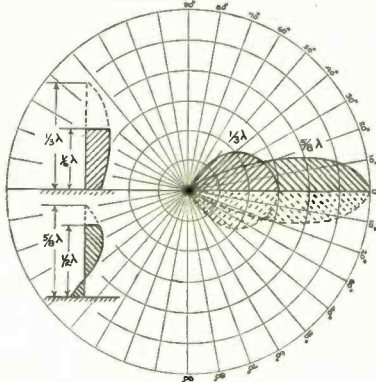

Fig. 2.
P. S. Carter of R. C. A. Communications, Inc., has calculated the power distribution in the vertical plane of a one-third wave, and a five-eighths wave, single wire, T type antenna. The diagrams of Fig. 2 illustrate graphically the results of these calculations. The small diagrams at the left of the figure illustrate the current distributions in the two antennas. The upper T antenna is assumed one-sixth wavelength high, and to have an electrical length of one-third
It will be observed from Fig. 2 that a considerable portion of the energy of the one-third wave antenna is projected at a vertical angle of approximately 35° while the corresponding angle of the five-eighths wave antenna is about 15°. The five-eighths wave antenna radiates twice the power in the horizontal plane that is obtained from the one-third wave antenna.
The graphs of Fig. 2 assume a perfectly conducting ground. The effect of imperfectly conducting soil is to raise the angle of radiation above the horizontal. The angle of elevation will be higher as the conductivity of the soil becomes lower. Not all of this theoretical gain in power radiation by use of the five-eighths wave antenna can be obtained in practice. The theoretical gain